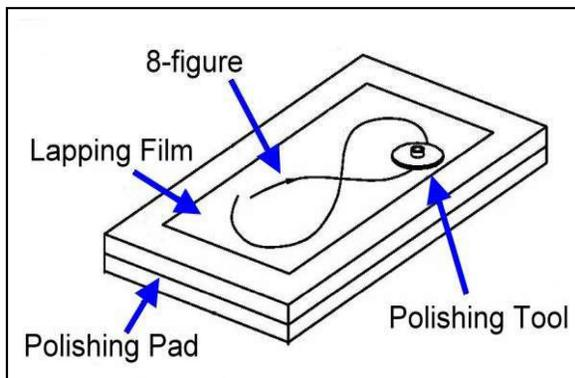

Fig 28
Step 14 Polish the end of the connector by applying light pressure on the connector and move the polishing jig by a Figure-8 motion until the polishing traces caused by protruded fiber disappear. See Fig. 28.